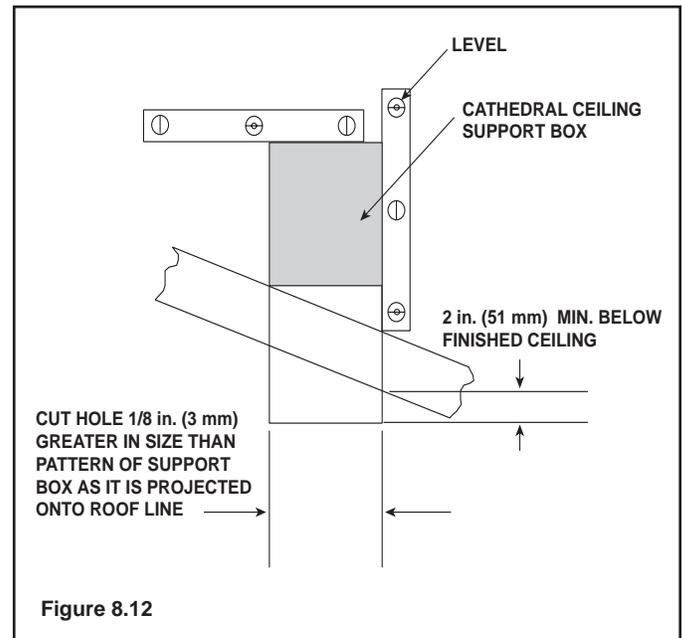

Figure 8.12
- Lower the support box through the hole in the roof until its bottom is at least 2 in. (51 mm) below the ceiling (Figure 8.12).